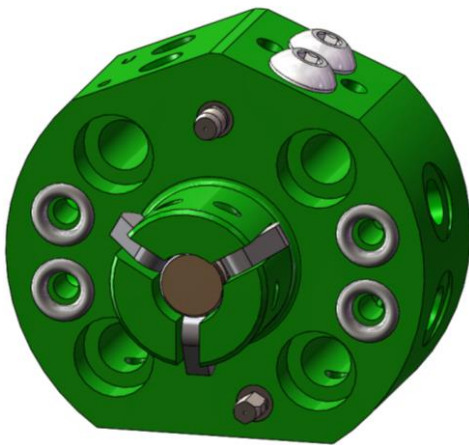
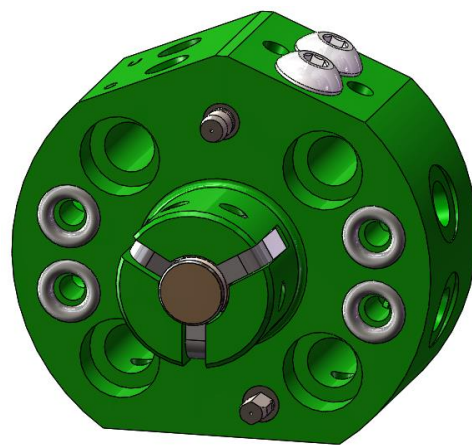

Figure 6.1-1. Robot Side Coupled (Cams Extended)
Figure 6.1-2. Robot Side Uncoupled (Cams Retracted)
2. Turn on supply air to the control valve and verify that the cams move to the extended position (Figure 6.1-1). If using a single solenoid, spring return, 4-way valve, this will verify that it is plumbed correctly.
3. Supply control power to the solenoid valve and supply the signal from the controller/PLC to move the valve to the uncoupled (solenoid energized) position. The cams should retract to the uncoupled position (Figure 6.1-2) and the input from the uncoupled sensor (optional) should be received by the robot controller/PLC.
¹ To test Piston Spring functionality, retract the cams (Figure 6.1-2) using air pressure, then completely vent off all air and ensure that the cams return to the extended position (Figure 6.1-1).